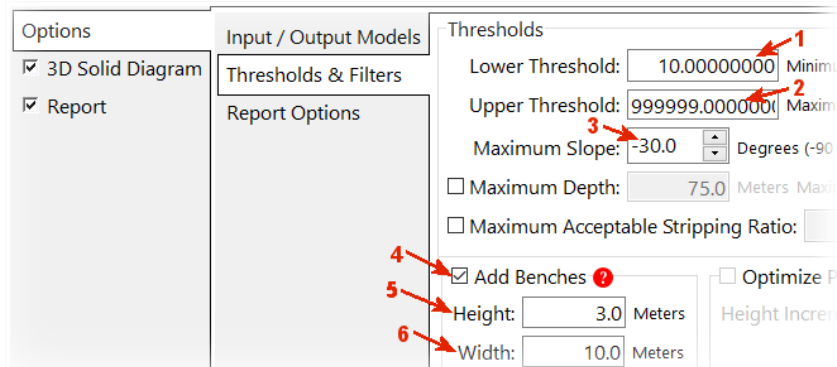

Figure 94
- Click on the Thresholds & Filters tab (Figure 94) and enter the following information: